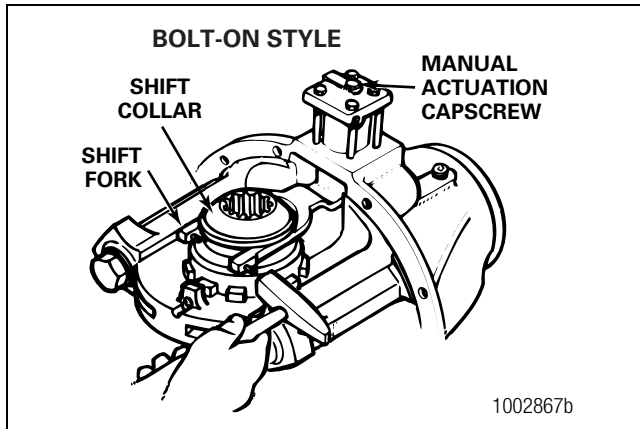

Figure 6.32
14. Hold the shift collar in the locked or engaged position and tap in the two roll pins in the shift fork ends until they are even with the outer yoke faces. Figure 6.32.